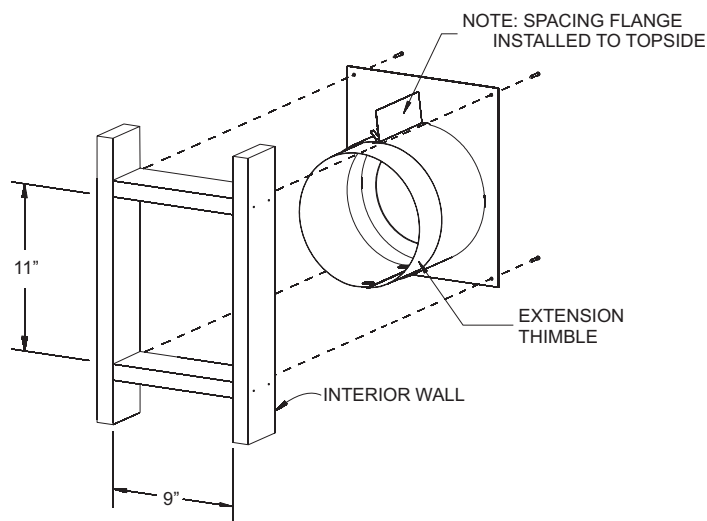

Figure 54
2. Cut hole in wall for wall thimble/firestop assembly (**Figure 54**) into your combustible wall. Note: On brick or block exterior wall a 7" (178mm) diameter hole needs to be cut.
Measure the total wall thickness to determine whether or not the extension thimble is to be used. If the combustible wall depth is over 5 3/8" (137mm), then the extension thimble should be used (**Figure 54**).
3. Install the wall thimble assembly through the framed opening so the firestop plate is on the interior wall (**Figure 54**). Telescope section should extend all the way through the exterior wall. Attach with (4) 10 x 1" screws.